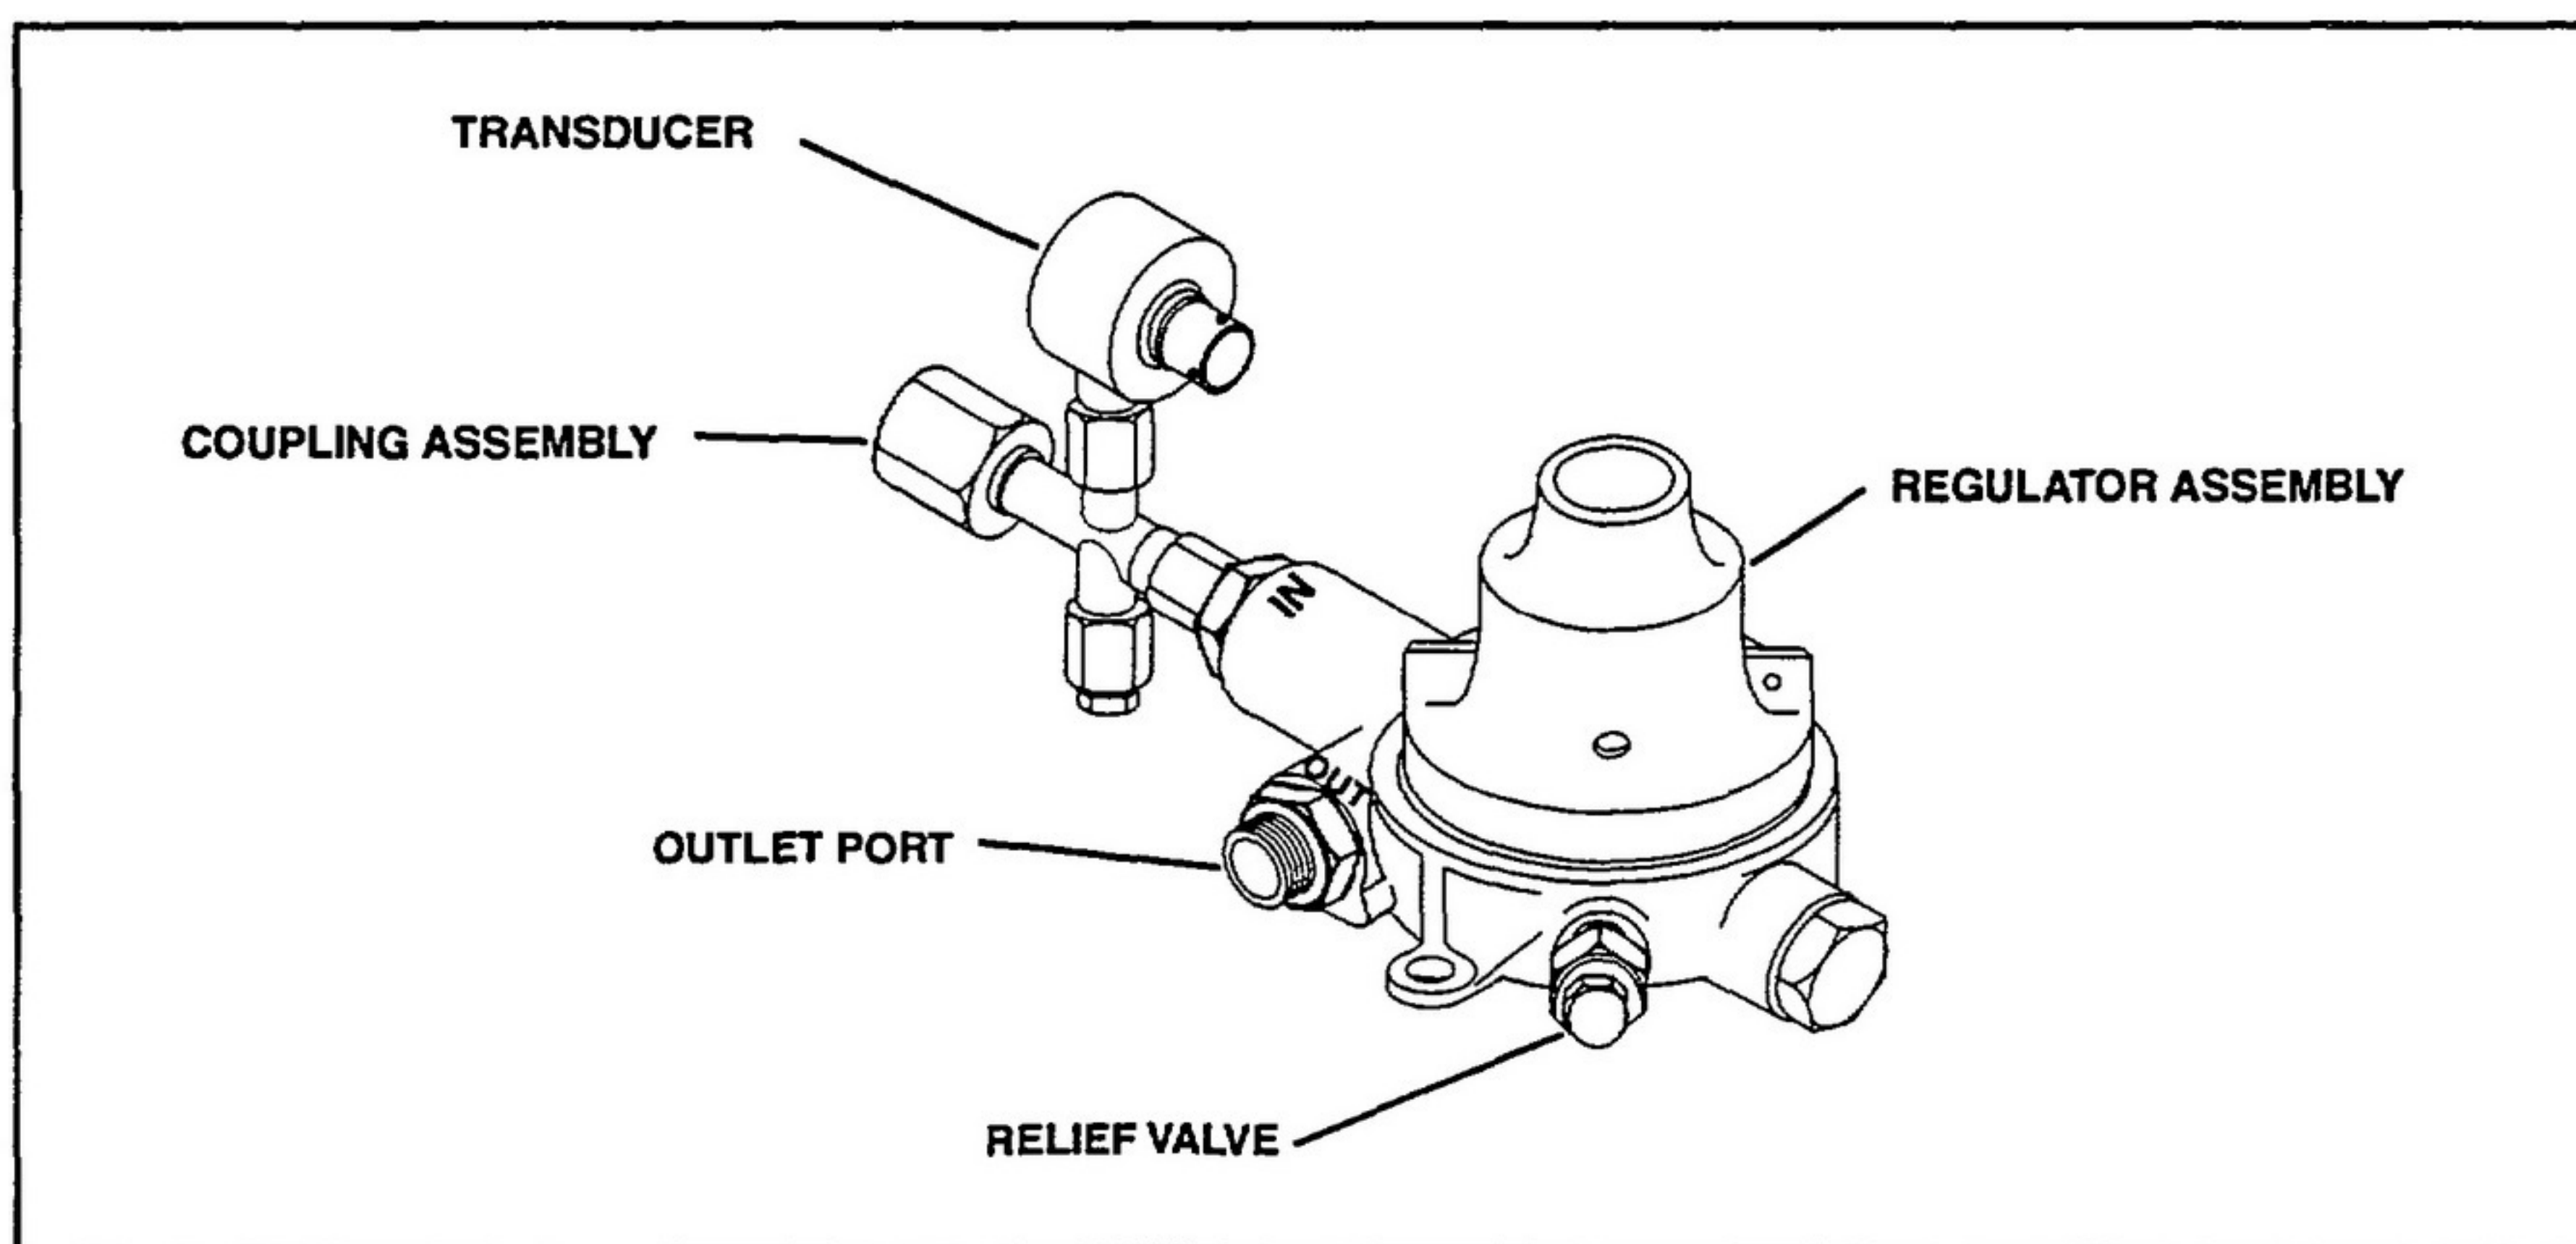

Figure 1 - Crew Oxygen System Regulator, Transducer & Coupling Assembly
This section describes the 803163 Series & 803127 Series Crew Oxygen System Regulator, Transducer and Coupling Assemblies (see Figure 1), and the 804182 Series Transducer and Coupling Assemblies (not shown). The operation of the units and a typical installation configuration are also presented in this section.
- (1) Plug OUTLET port of regulator assembly (65, 65A or 65B, IPL Figure 1). This is only required for the 803163 Series & 803127 Series Crew Oxygen System Regulator, Transducer and Coupling Assemblies.
- (2) Install one plug (15) in coupling assembly (25), or two plugs (15) in coupling assembly (25A).